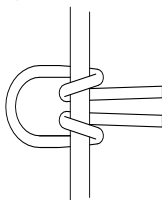

Fig. 7
- Step 3 Continue to make two more turns around the TreeSqueeze (Fig. 7 & 8).